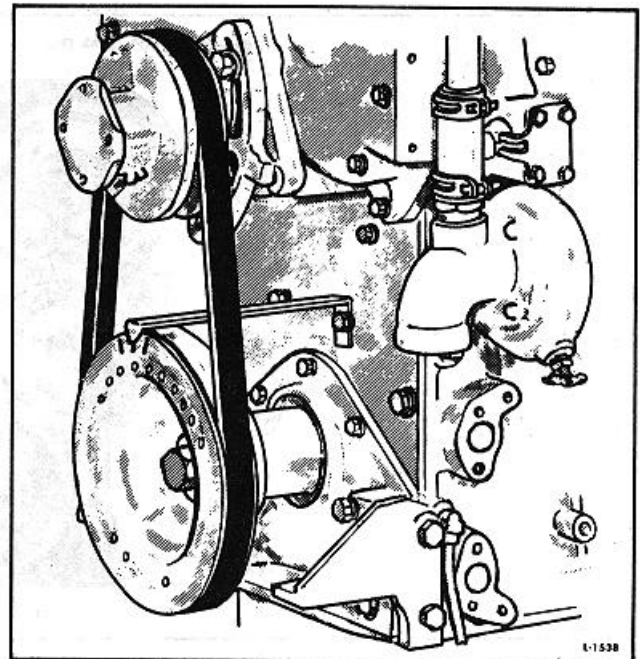

Fig. 2. Pointer Installation for Marking Top-Dead-Center
8. Attach a suitable pointer to the crankshaft front cover or engine front end plate as illustrated in Fig. 2. The pointer should extend over the vibration damper (or crankshaft pulley).